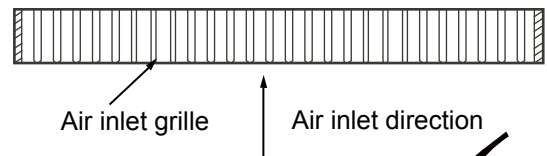

Figure 2.3
1. In creating the air return plenum on the air inlet panel, make sure the air grilles are angled such that they are parallel to the direction of the air inlet. See Figure 2.3.